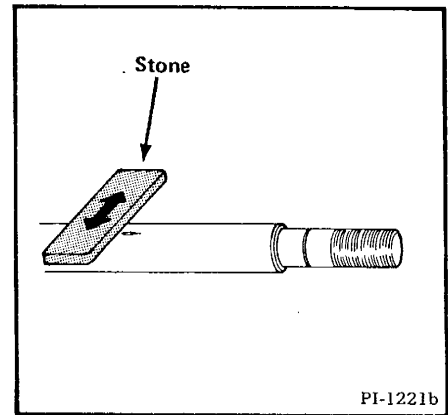
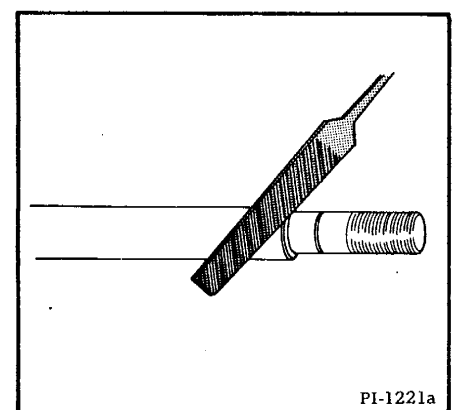

Fig. 2-18 Removing Marks
Fig. 2-21 Beveling the Shoulder
- (1) Damage marks on the cylinder rod. Inspect the complete rod. Carefully remove small marks with a stone (Fig. 2-18).
- (2) Small holes caused by defective welding. Use an arc welder to fill holes. Use care to prevent damage to seals and cylinder rods. Do not put the ground clamp on the cylinder rod when welding the case.
- (3) Damage to cylinder case. Disassemble the cylinder and make parts replacement as needed.
- (4) Dirt in the cylinder causing wear. Use care when disconnecting fittings and during filter replacement to prevent dirt from getting into the system.
- (1) Put a small bevel on the shoulder at the piston end of the cylinder rod (Fig. 2-21). This will let the seals slide over the shoulder without damage. Remove all marks from the rod (Fig. 2-18). Do not use a power grinder or file to remove marks.
- (2) Heat the teflon piston seal in warm oil or water for several minutes before installing it. This will make it softer and easier to install.